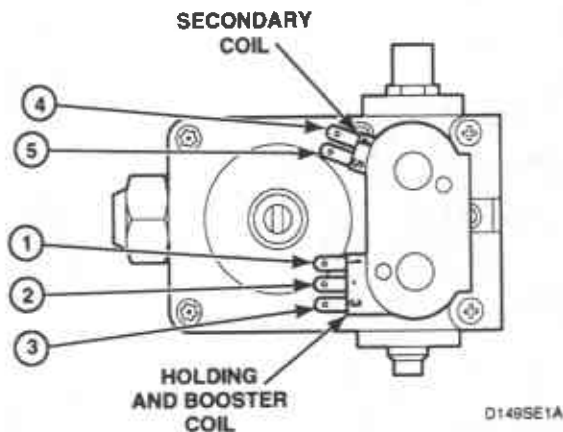

Figure 52
- Set test meter to read OHMS and put meter probes to terminals as in *Figure 52*, and the chart below.
- Remove wires from sensor terminals, *Figure 52*.